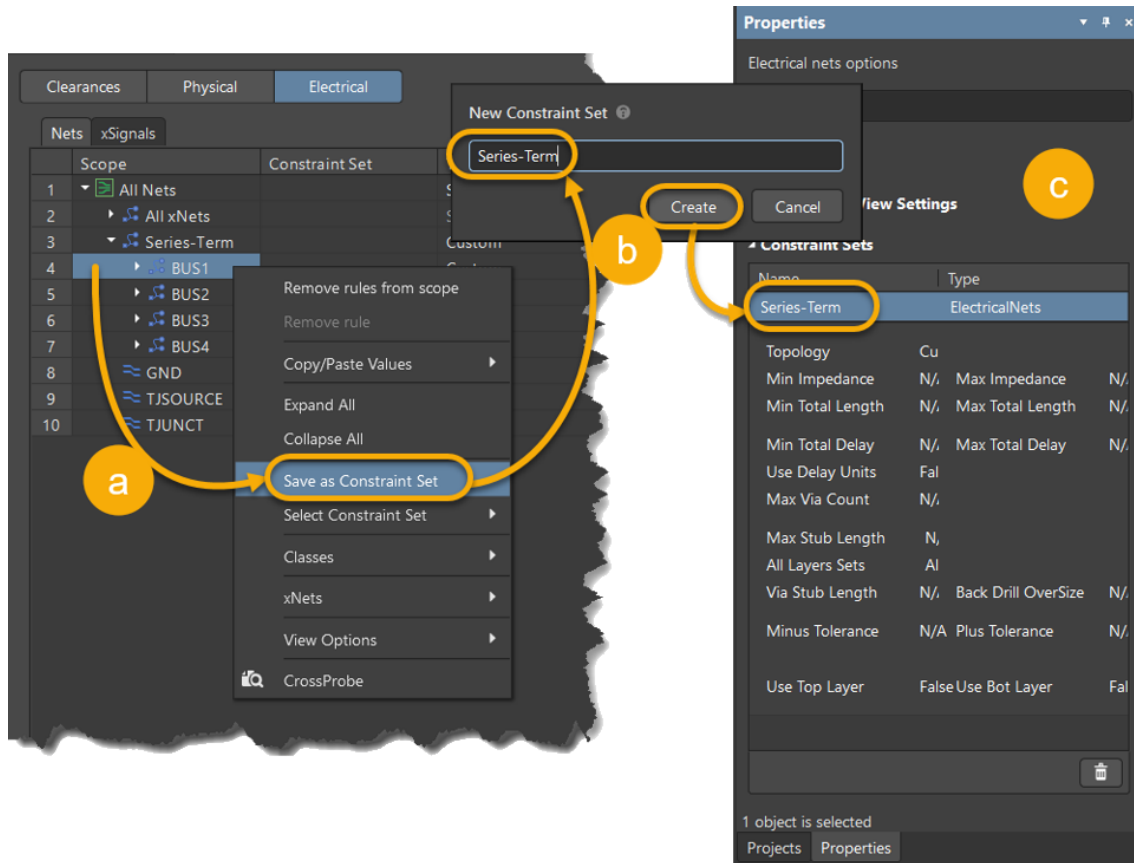

Figure 9. Create a Constraint Set
22. Hovering over the xNet name **BUS1**, Figure 9: